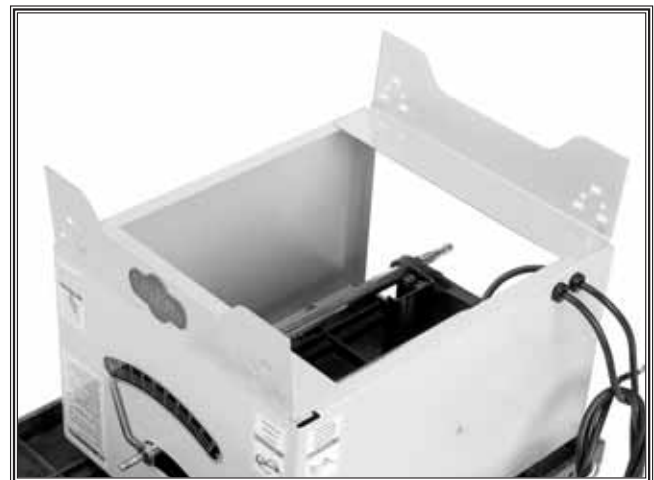

Figure 13. Attaching the top brackets.
2. Secure the short mounting brackets to the underside of the table saw with the four $\frac{5}{16}$ "-18 x 1" hex screws, $\frac{5}{16}$ " washers and $\frac{5}{16}$ " hex nuts as shown in **Figure 13**. Note—*Make sure the bracket with the **SHOP FOX®** logo is facing the front of the table saw.*